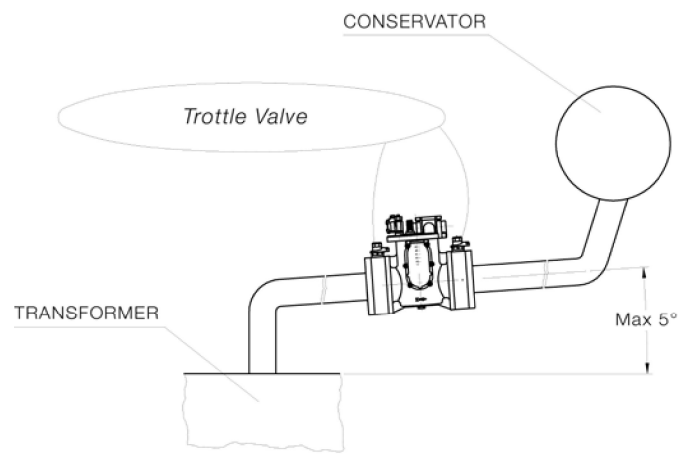

Figure 6: Buchholz relay fitting location
- Buchholz relay is a gas-actuated relay installed in oil immersed transformers for protection against several types of faults. Named after its inventor Mr. Max Buchholz (1875–1956) in 1921, relay is used to set off an alarm in case of incipient (i.e. slow-developing) faults in the transformer and to disconnect the transformer from the supply in the event of severe internal faults, Figure 6. It is usually installed in the